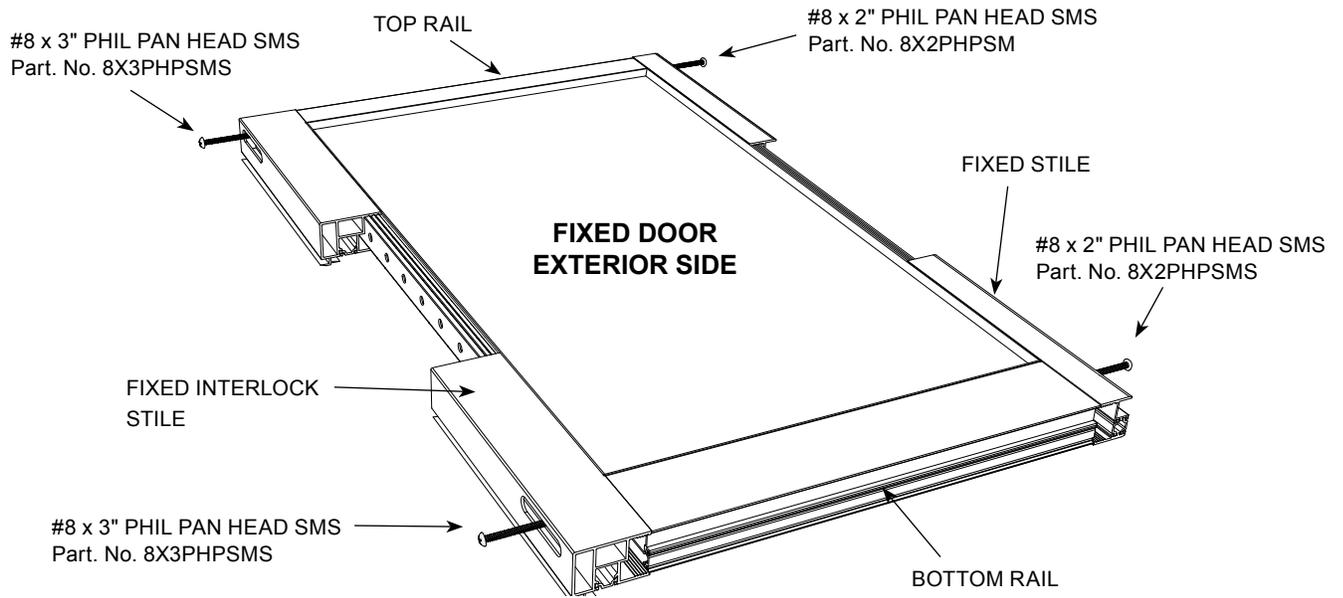

FIG. 10
10. Secure all corners with fasteners shown. (FIG. 10)